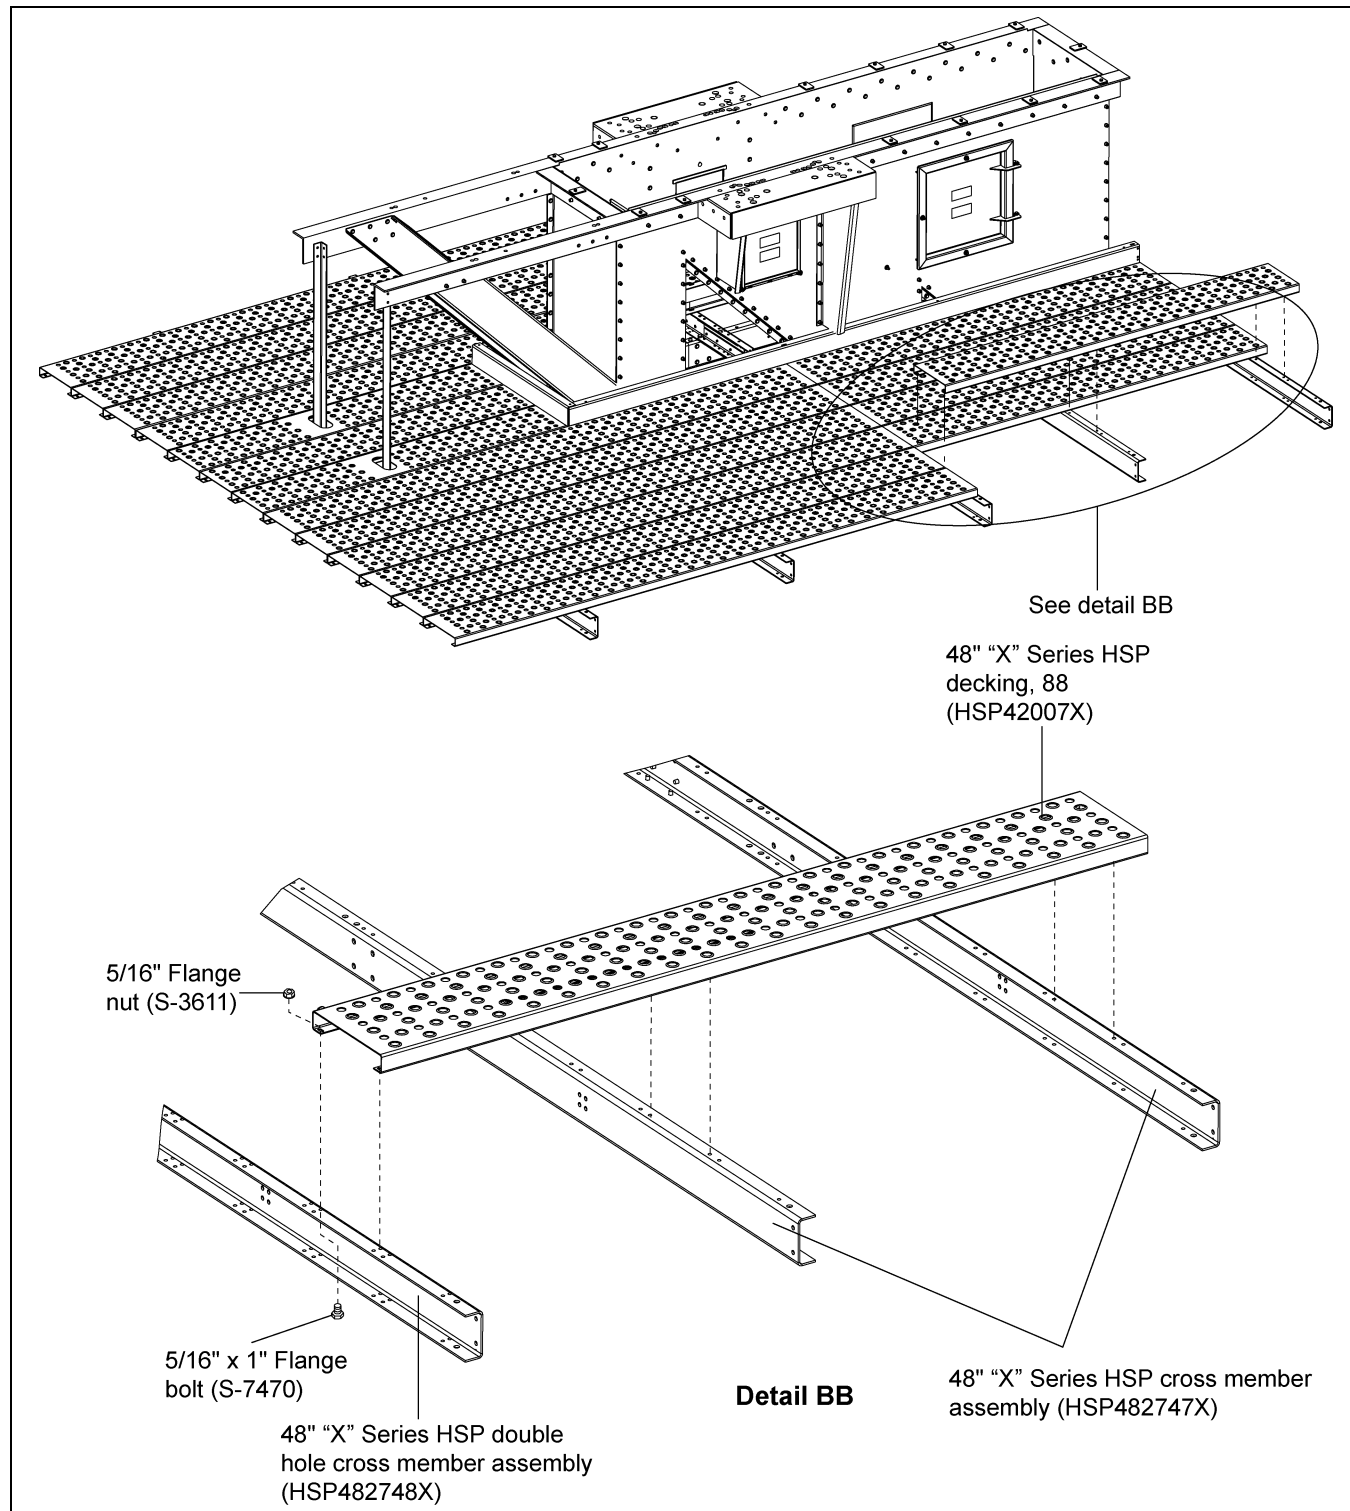

Figure 9M
1. Install six (6) planks of decking (HSP42007X) on the drive side at the down-leg end. **NOTE:** *Be sure to install this section of decking by starting at the inside next to the toe board and working outward.*
2. Fasten the decking to the three (3) cross channels using 5/16" x 1" flange bolts (S-7470) and 5/16" flange nuts (S-3611). (See Figure 9M.)